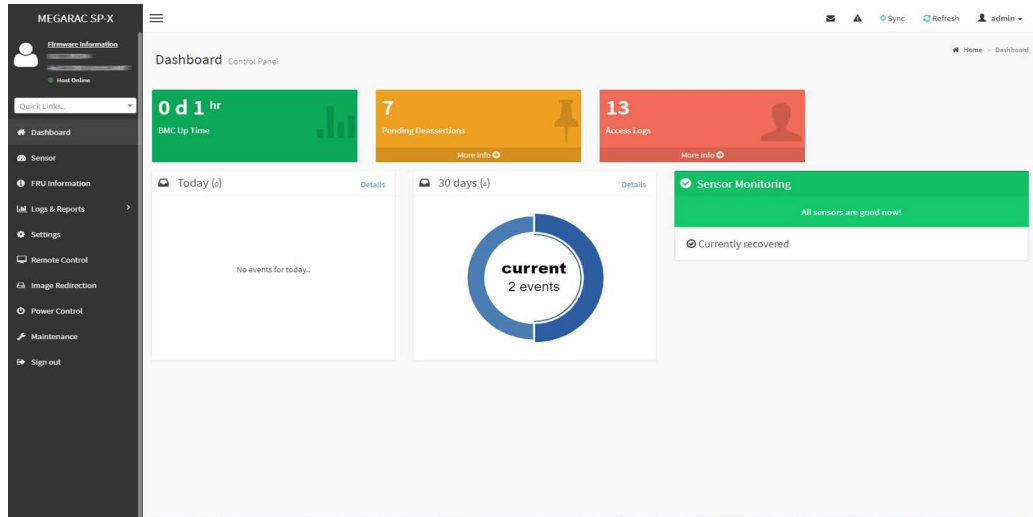

Figure 5.5 Dashboard menu
4. The BMC WebUI automatically displays the Dashboard as shown in Figure 5.5 on page 58.